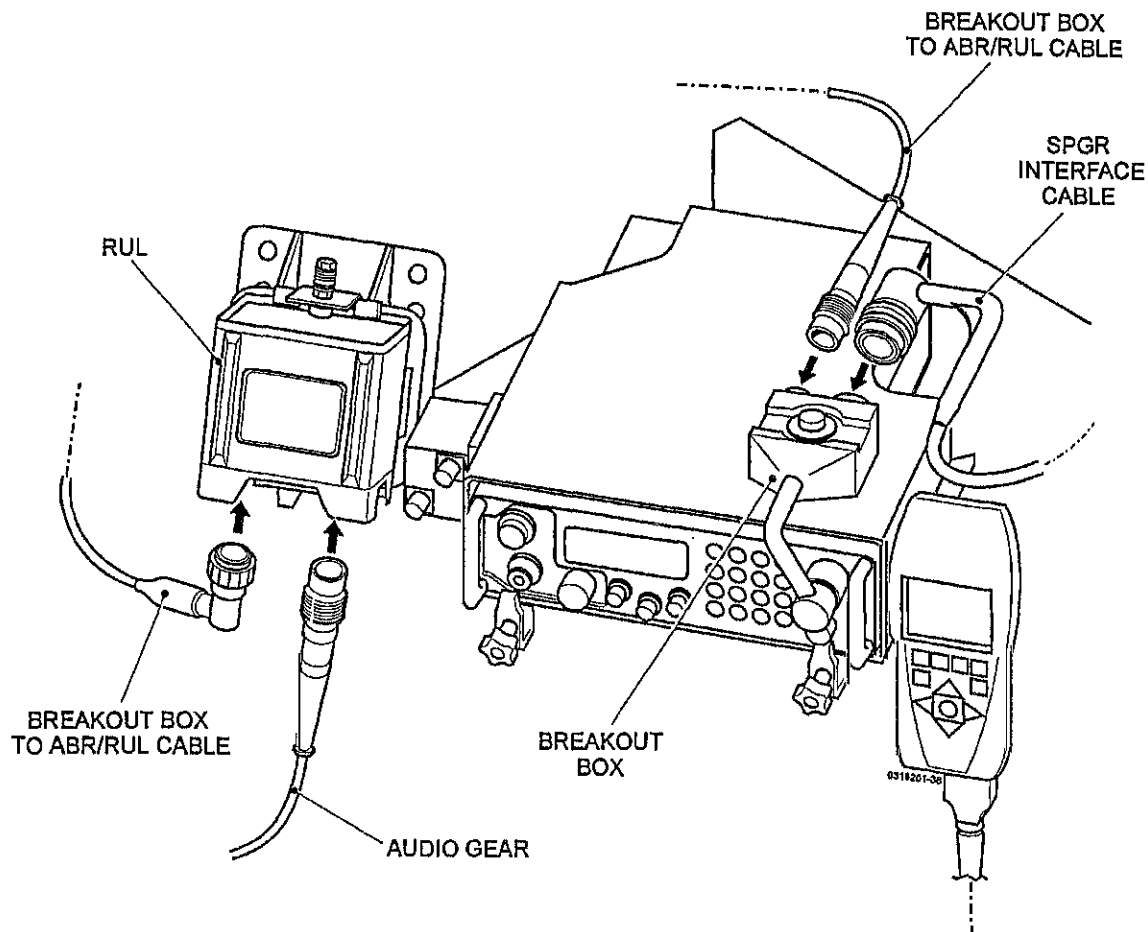

Fig 23 Remote kit cable installation - TUL/TUM mounted manpack station
86.3 Refer to Fig 23. Connect the breakout box to RUL/ABR cable to the breakout box audio breakout (7-way) fixed connector. Connect the cable to the RUL mating connector.